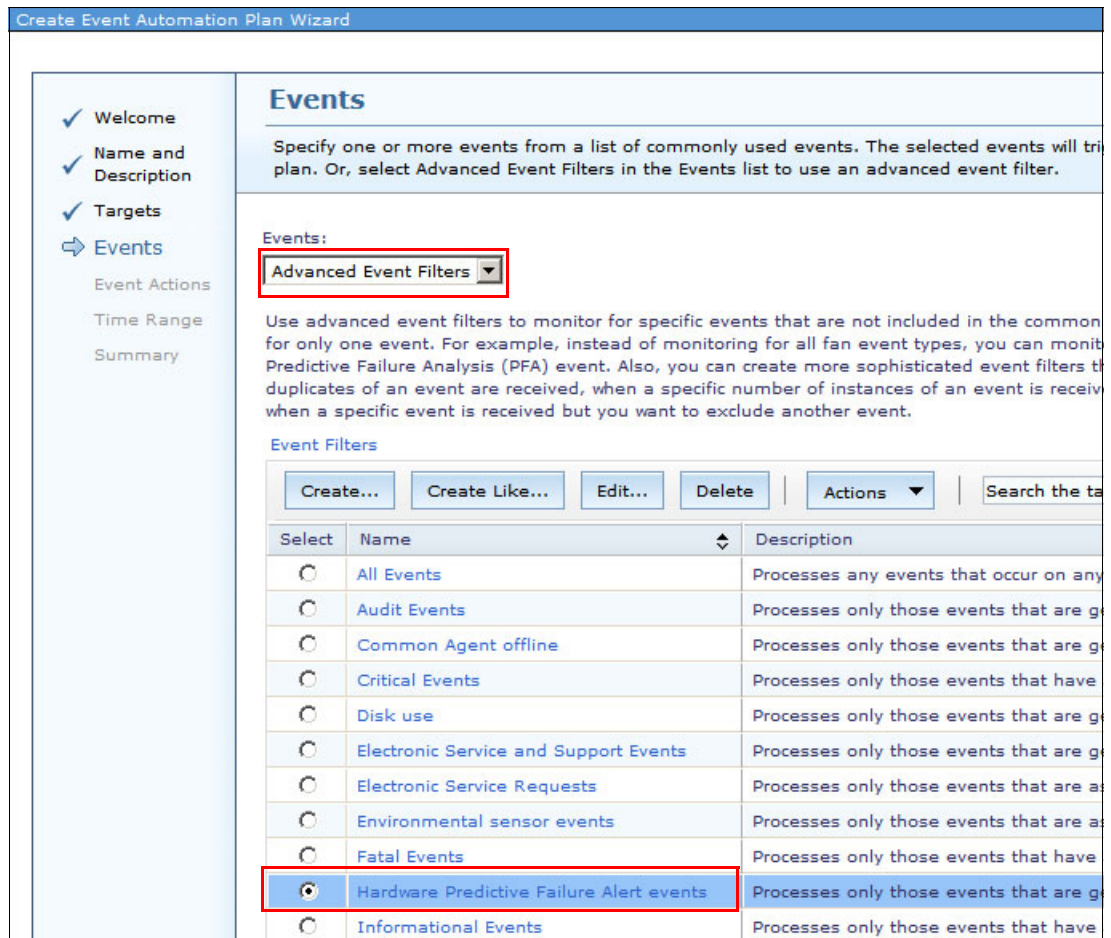

Figure 7-20 Create Event Automation Plan Wizard Events window
- To monitor specific events that are not included in the common event filters, select **Advanced Event Filters** (Figure 7-20). Select the **Hardware Predictive Failure Alert events** filter and click **Next**. You can also create your own custom filter, if required.